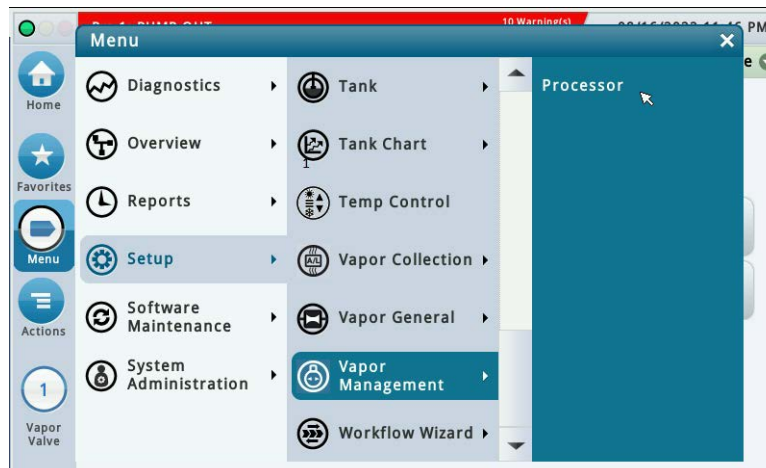

Figure 12. Vapor Management Setup Screen
1. Touch Setup>Vapor Management>Processor (see Figure 12).